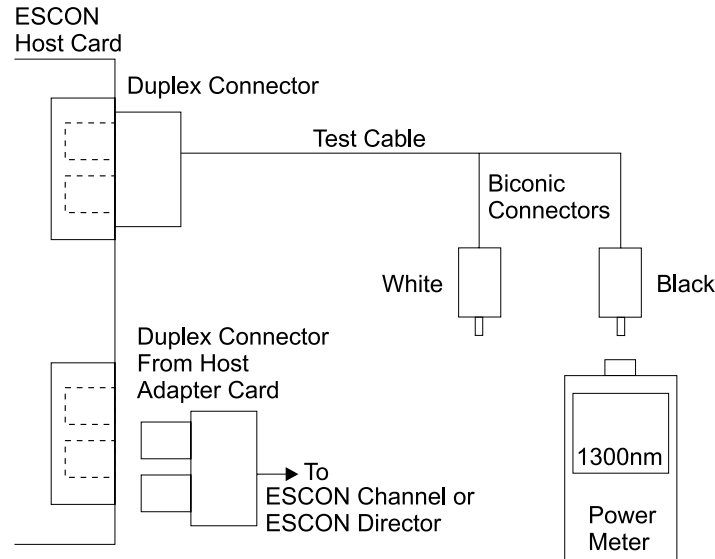

Figure 148. Measuring Optical Transmit Power (S008185m)
3. Connect the duplex connector of the optical power meter test cable to the 2105 Model Exx/Fxx ESCON card duplex connector (see Figure 148).